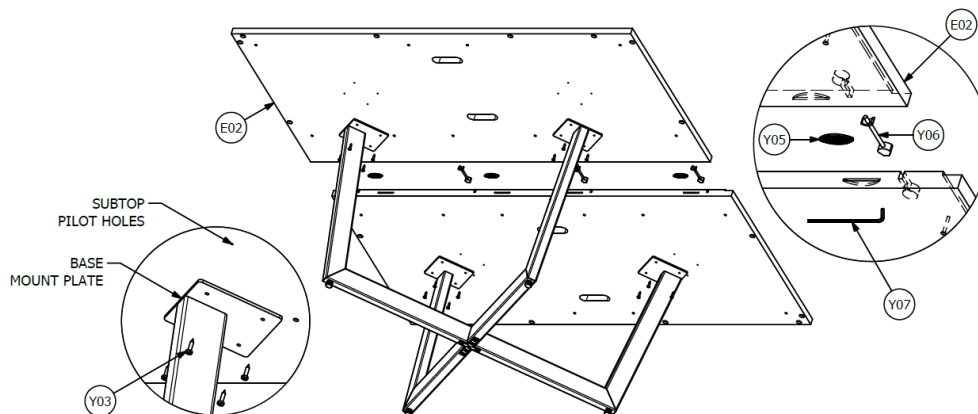

FIGURE 04: 2-PIECE SUBTOP ASSEMBLY
1. Place All Subtop (E02) sections on Table Base with pilot holes to attach Subtop facing down. See Figure 04.
2. Using Biscuit (Y05) and Zip-Bolt (Y06) connect the Subtop sections to each other. See Figure 04.
3. Align pilot holes in Subtop to holes in Base Mounting Plates, then use Fastener (Y03) to secure them. See Figure 04.